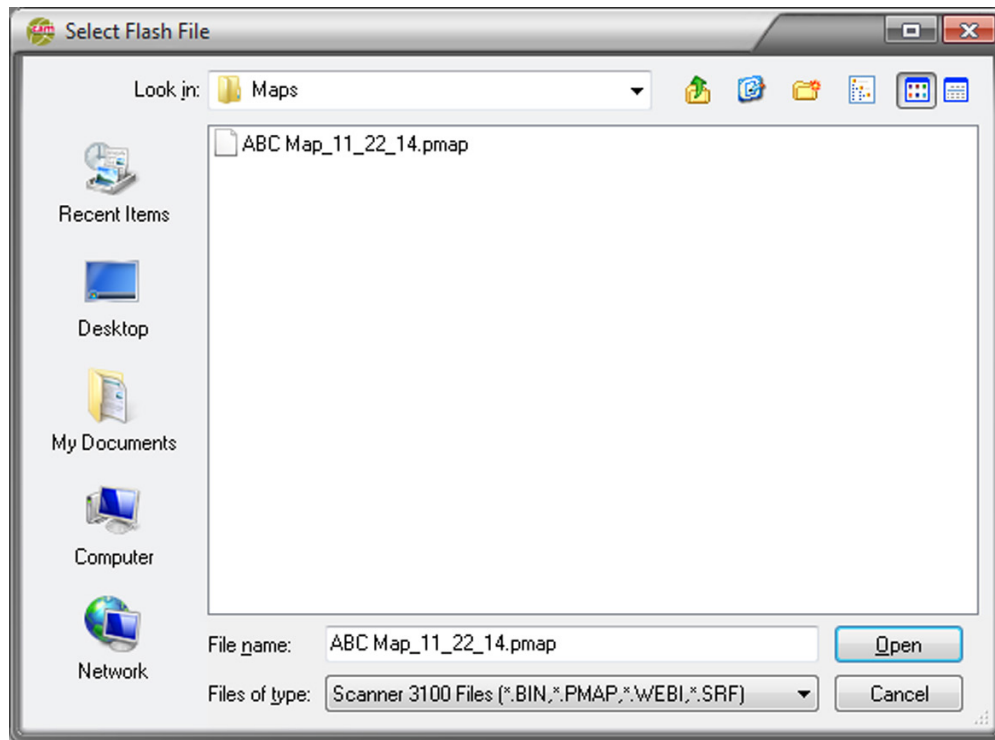

Figure 5.8—Select Flash File dialog
4. Select the Modbus map (.pmap) to be uploaded from C:\Cameron Data\ScanMap\Maps (Figure 5.8, page 29).